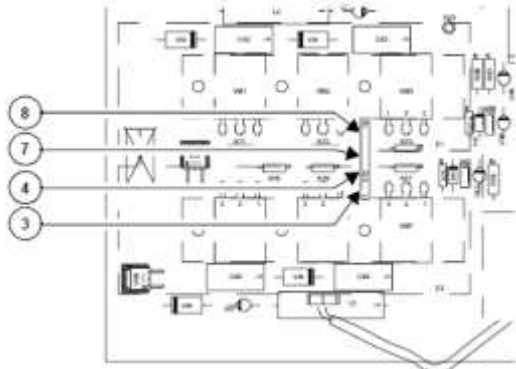
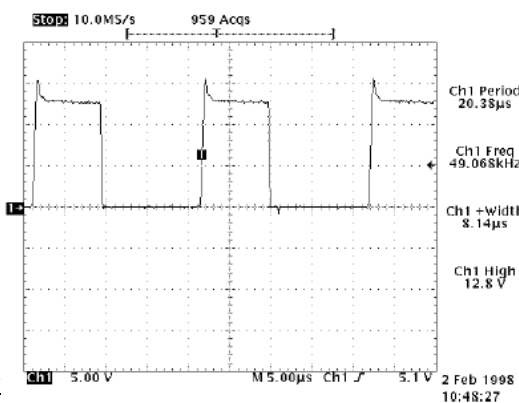

Fig. 6
Fig. 7
2. The presence between points: XT2-8 (GND) - XT2-7(probe) and XT2-3(GND) - XT2-4 (probe) (Fig. 6) of the wave form shown in Fig. 7: